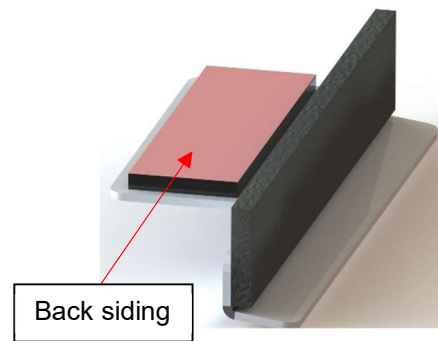

Figure 113
- 1) Locate the wiper brackets that are provided in the plastic bag (Figure 113).
- 2) Peel back siding of the double-sided tape of one wiper bracket (Figure 113).